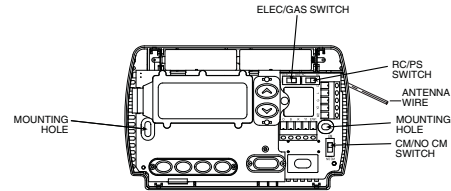
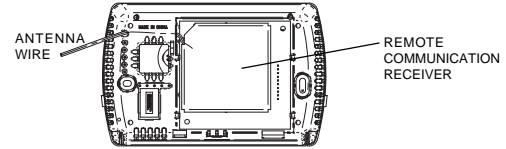

Figure 1 – Thermostat base
Figure 2 – Back of thermostat base
The thermostat must have 24 VAC supplied for the receiver to operate. When the system wiring is connected, if a system common wire is connected to terminal C, the system is providing 24 VAC to the thermostat. The RC/PS switch (see Fig 1) must be in the RC position.
3. Using the thermostat base as a template, place on the selected wall locations and mark the location of all mounting holes (Figure 1), and the hole for the thermostat antenna wire illustrated in Figure 2.
5. Make sure the remote communication receiver is plugged in properly to the thermostat and that the antenna wire is routed through the thermostat subbase as shown in Figure 2.
The ELEC/GAS switch on the thermostat (Fig. 1) is factory set to the ELEC position. In this position, the thermostat will power the circulator fan on a call for heat. Electric heat systems may require the switch to be in the ELEC position.
*** The RC/PS switch shown in Figure 1 configures the thermostat for Hardwire or Power Stealing.**